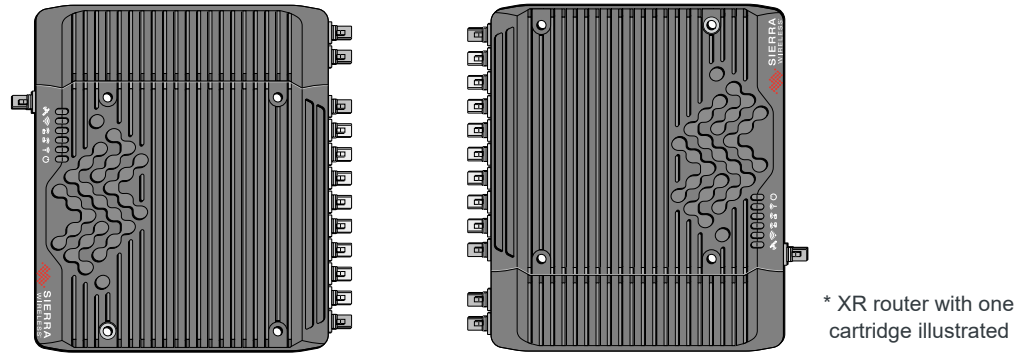

Figure 2-5: Recommended Orientations for Inclined/Vertical Mounting
*Note: When mounting the XR router in a location that could be exposed to rain (e.g. in a vehicle door panel, which would expose the XR router when the door is opened), mount the XR router facing left to right. (i.e. antenna and other ports are inserted from the side), as shown in Figure 2-5.*